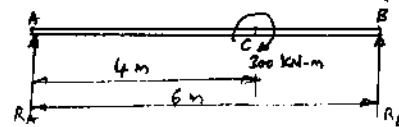

Fig.Q7(b)
- b. A horizontal beam AB is simply supported at A and B, 6 m apart. The beam is subjected to a clockwise couple of 300 kN-m at a distance of 4 m from the left end as shown in Fig.Q7(b). If $E = 2 \times 10^5 \text{ N/mm}^2$ and $I = 2 \times 10^8 \text{ mm}^4$, determine: i) The deflection at the point where the couple is acting; ii) The maximum deflection. (16 Marks)